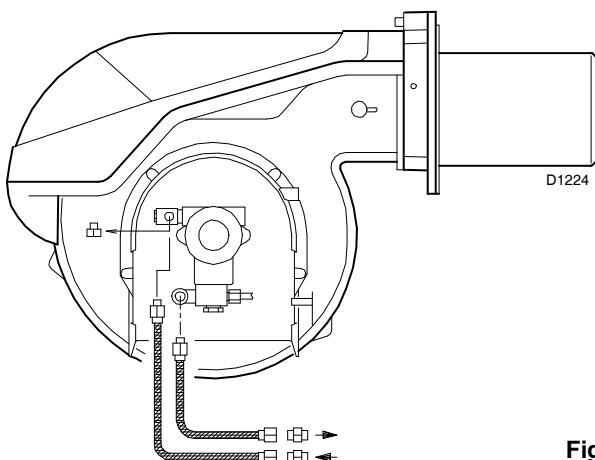

Fig. 20
7.1.1 Hydraulic connections (Fig. 20)